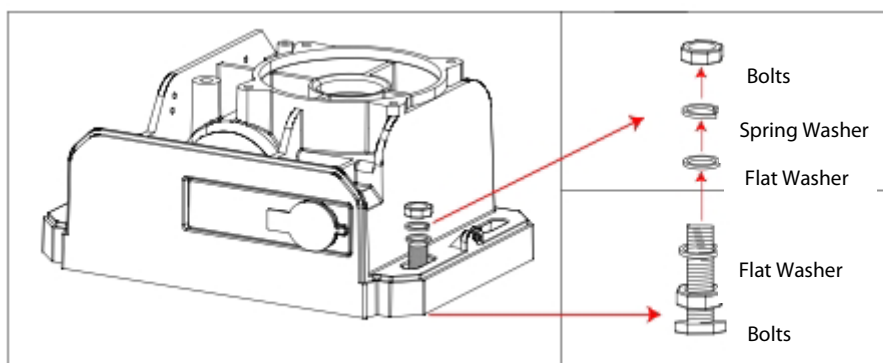

Figure 10
- Tighten the M10 bolts with the spring and flat washers provided to the motor's base as required. (The height can be slightly adjusted by bottom bolts as per Figure 10).